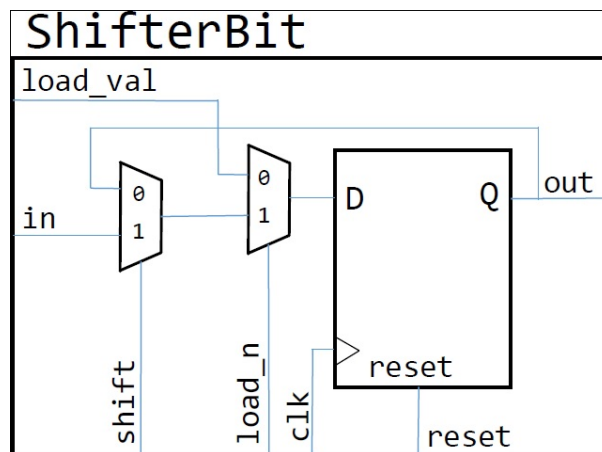
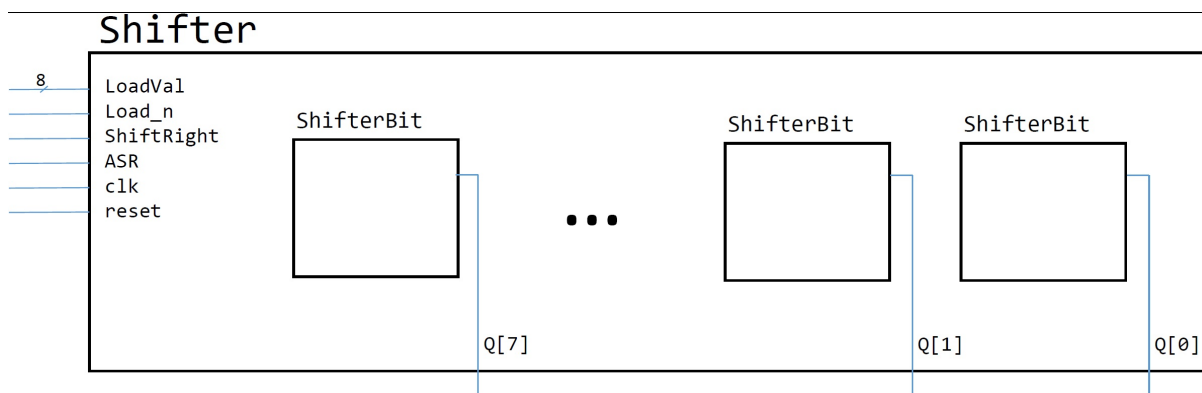

Figure 4: Single-bit shift-register
Figure 5: 8-bit shift-register of Part III. **None** of internal connections are shown here.
A shift register is a sequence of flip-flops that move their contents one flip-flop down the row on each rising clock edge. Figure 4 shows one bit of this shift-register. It contains a positive edge-triggered flip-flop to store the ShifterBit's value and two multiplexers that determine the source of the ShifterBit's contents.
To create an 8-bit shift-register, you will use eight instances of the circuit in Figure 4 to design your 8-bit shift-register with optional arithmetic shift and parallel load as shown in Figure 5.
3. The *ShiftRight* input which feeds into the *shift* input of all eight instances of the ShifterBit circuit in Figure 4.
For the leftmost ShifterBit, you should design a circuit that will perform sign-extension when the signal *ASR* is high (arithmetic right shift) or load zeros if *ASR* is low (logic right shift). This special circuit is not shown in Figure 5.
1. What is the behaviour of the 8-bit shift register shown in Figure 5 when  $Load_n = 1$  and  $ShiftRight = 0$ ? Briefly explain in your prelab. **(PRELAB)**
2. Draw a schematic for the 8-bit shift register shown in Figure 5 including the necessary connections. Your schematic should contain eight instances of the one-bit shifter (i.e. the ShifterBit) shown in Figure 4 and all the wiring required to implement the desired behaviour. Label the signals on your schematic with the same names you will use in your Logisim circuit. **(PRELAB)**
3. Starting with the built-in positive edge-triggered D flip-flop found at *Memory > D Flip Flop*, use this D flip-flop with instances of the *mux2to1* module from Lab 2 to build the one-bit shifter shown in Figure 4. **(PRELAB)**